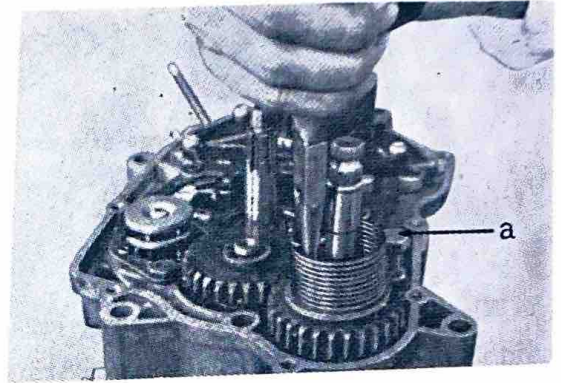

Fig. 3-11-6
- b. Detach the spring from kick axle and remove the spring. (Fig. 3-11-6)
(Fig. 3-11-6)